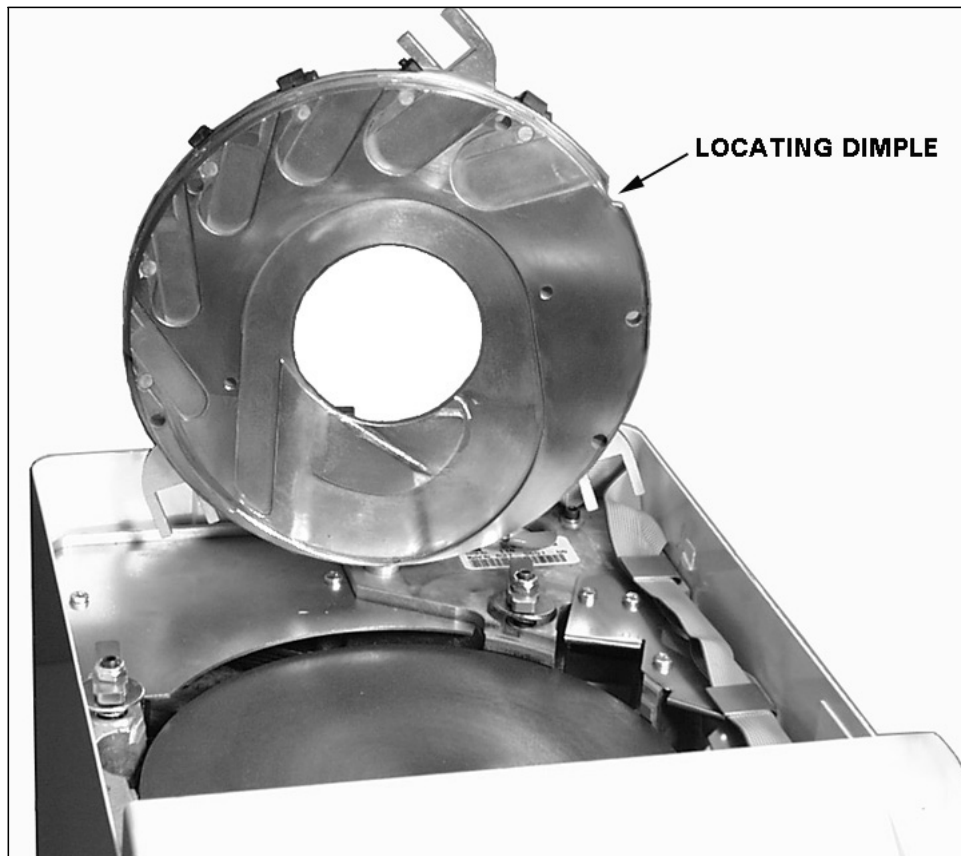

Figure 3 Sort Disk in Vertical Position
4. Place the anchor pin in the mounting hole near the rear of the cabinet -- see Figure 3 on the next page.
### Sort disk Installation – Figure 3
1. Lower the sort disk onto the turntable. The locating dimple (Figure 3) will only allow the disk to drop to the pad when the dimple is next to the matching projection in the base assembly.